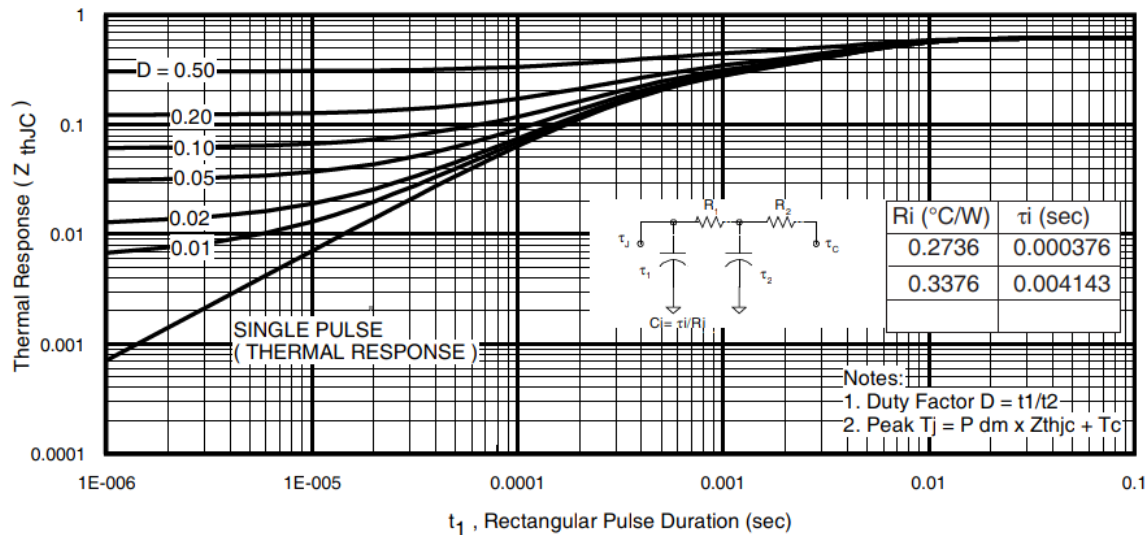

Fig 13. Maximum Effective Transient Thermal Impedance, Junction-to-Case
- ΔT = Allowable rise in junction temperature, not to exceed T_{jmax} (assumed as 25°C in Figure 13, 14).
$Z_{thJC}(D, t_{av})$ = Transient thermal resistance, see Figures 13)